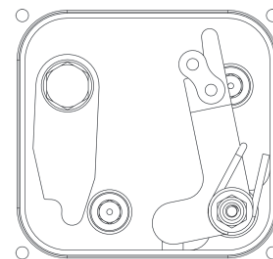

Figure 12 - Final spring leg position.
5. Install and tighten the nut, enough to remove the slack in the assembly. Be careful not to over tighten and damage the threads. Using a pair of plyers, lift the bent end of the spring over the Pawl lever into the position shown in Figure 12.